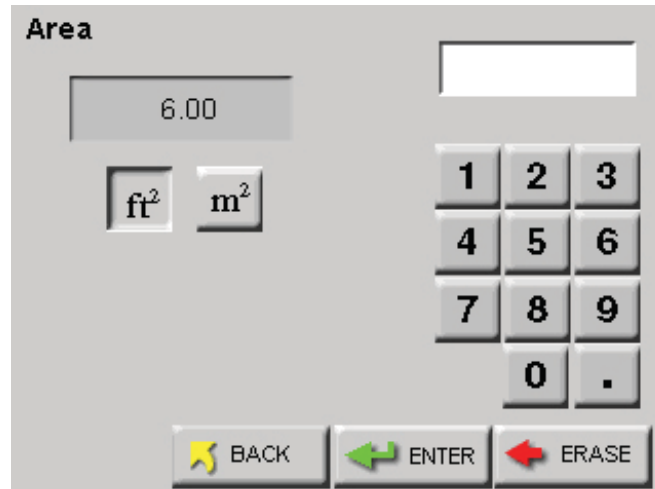

Figure 6-83 Reports Area Setup Screen
- Press the AREA button to display screen shown in Figure 6-83.